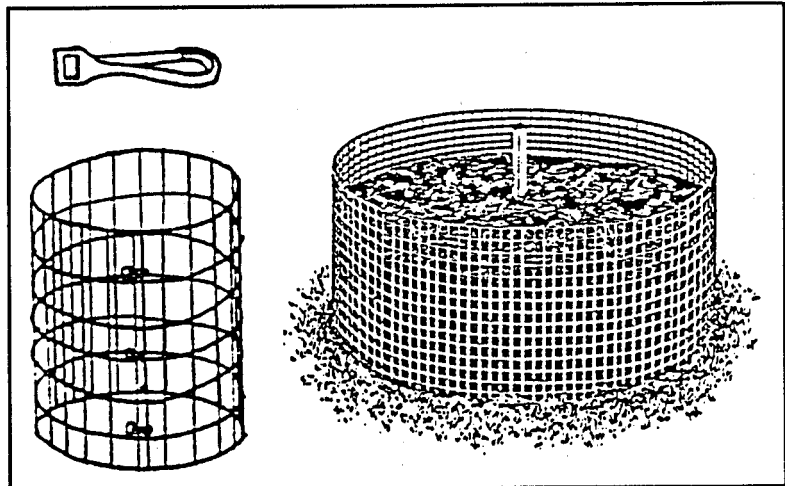

Figure 2. Wire mesh compost bins
**Wire mesh compost bins** (Figure 2) are versatile, inexpensive and easy to construct. A circular wire mesh bin may be made from poultry wire, hardware cloth, or heavy wire mesh. Poultry wire and light weight hardware cloth are the least expensive but they quickly lose their shape with use, require support with posts and need frequent replacement. Heavier, self-supporting wire mesh (16 gauge galvanized or plastic coated woven wire fencing) is recommended as it is easier to work with and more durable. This wire is available in three, four and five foot widths. To determine the length of wire needed, multiply the diameter you want for your compost heap by 3.14. That's the length of wire you should buy. Once you've purchased the fencing and picked a location for the compost heap, bring both ends of the wire mesh together to form a circle. To support the compost when the mesh is removed later, a wooden stake should be driven in the ground in the center of the wire mesh circle. The ends of the mesh can be held together with several small chain snaps available at any hardware store.